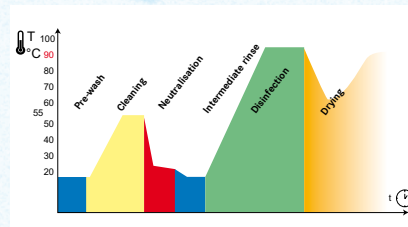

FIG. 1 Diagram of the program sequence of the Vario TD programme
5. Start the Vario TD programme (for diagram of program sequence see **fig. 1**) including thermal disinfection. Thermal disinfection takes place allowing for the A₀ value and observing national provisions (prEN/ISO 15883).